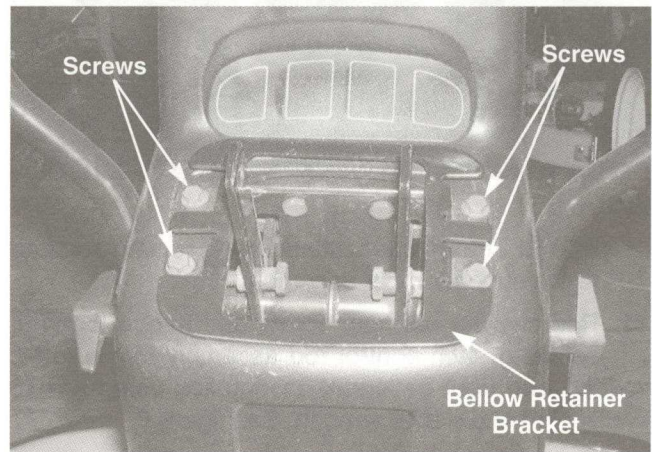

FIGURE 3.
7. Remove all four hex washer head screws securing the bellow retainer bracket to the top of the support tower using a 3/8 socket. See figure 3.